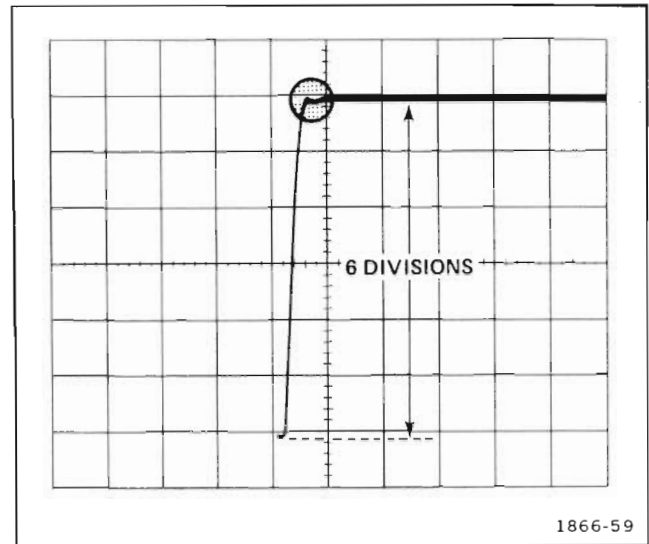

Figure 5-1. Typical display when Z-Axis Compensation is properly adjusted. Circle surrounds compensated portion of waveform.
d. Set INTENSITY for a positive step amplitude of 6 divisions (30 volts) on the test oscilloscope and center the display on the graticule. See Figure 5-1.
e. Check—For a flat-top waveform with approximately 1 volt or less (0.2 division) of aberration at leading corner. See Figure 5-1.